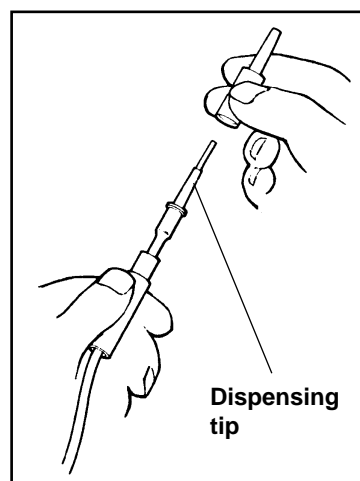

Figure 9.21
3. Slide dispensing tip from tip adapter (Figure 9.21).